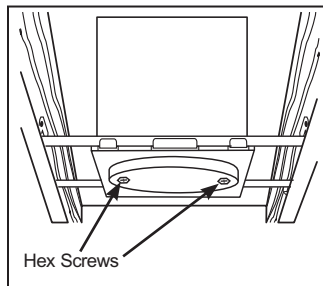
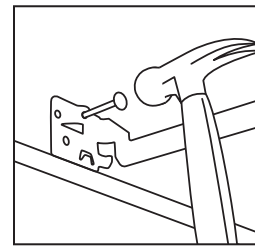

Figure 2
Figure 3
Step 1. Extend bar hangers to fit between joists. Bar hanger foot is contoured to easily align with bottom of joist (Fig. 2). Position fixture by hammering Real-Nails® into joists (Fig. 3).
Step 4. When installing in drywall, cut appropriate sized hole using the provided oval hole template. After installing drywall, if necessary, adjust fixture for ceiling thickness by loosening hex screws that attach the round skirt to the plaster frame (Fig. 2).